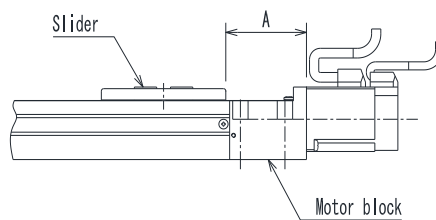

Fig. 6.9-4
- (5) Temporarily connect the actuator and controller, connect the teach pendant with the controller, then turn the power on. For how to connect, see Para. 2.4.5 of the instruction manual (basic) provided separately.
- (6) Set the servo gain values (position and speed) of Parameter 1 to zero (0). For the setting procedures, see Para. 13.3.3, 13.3.4 of the instruction manual (basic).
- (7) Specify "3" for the home return method of Parameter 2.
- (8) Execute the home return.
- (9) Move the slider to the position shown in Fig. 6.9-4 and tighten the coupling clamp screw.
The home position differs between the BET5 and BET7 actuators. (See Fig. 6.9-4.)
- (10) Turn the power on again, return the servo gain values (position and speed) to the previous values, then specify "2" for the home return method of Parameter 2.
- (11) After the power is turned off, then on again, execute the home return and make sure that the actuator is as shown in Fig. 6.9-4.
- (12) Reassemble the stainless sheet in Step (3) above as originally set. The stainless sheet should be stretched straight not to cause a sag.